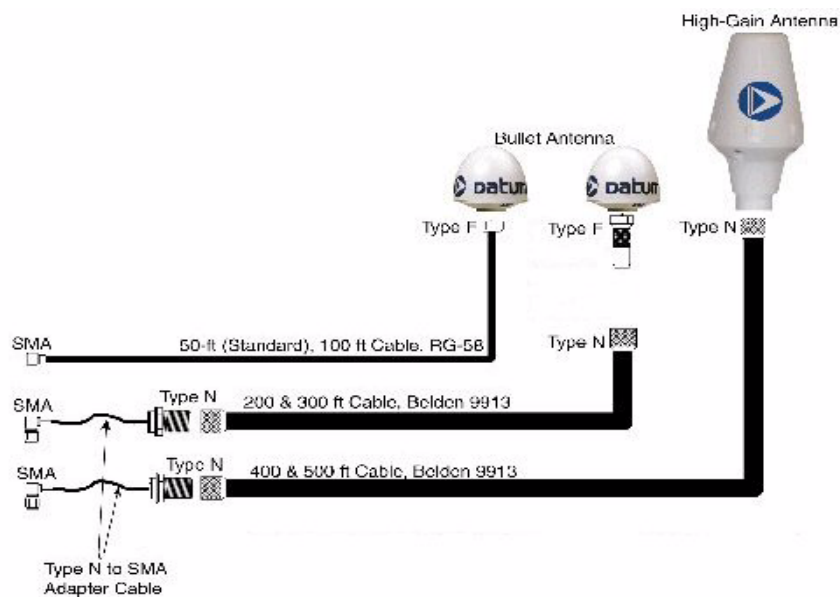

Figure 2-1 Antenna and Cable Options
2. **Connect** the coaxial antenna cable directly to the bottom of the antenna. If you are using the optional Belden 9913 cable, use the adapter cable. An illustration of cable connections is in Figure 2-1.